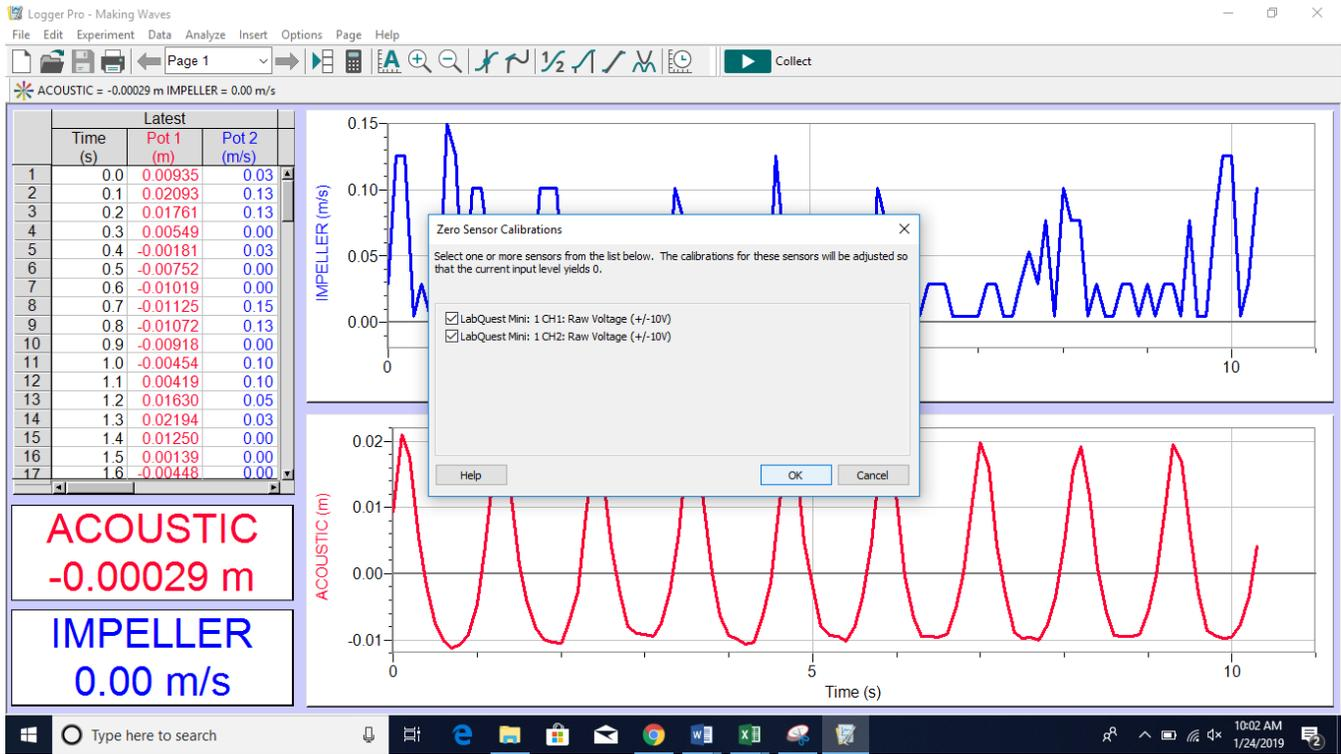

Figure A28. LoggerPro screenshot for zeroing sensors.
- A 'Zero Sensors Calibration' window will open. Make sure both channels have checkmarks in their respective boxes and then click "OK" (Figure A28):